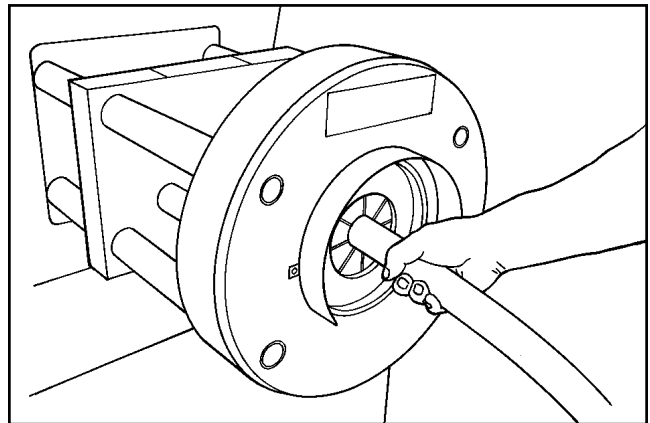

Figure 6
4. To crimp the fitting, press the CRIMP switch or footswitch. The die cage will advance until the fitting is fully crimped (Figures 6 & 7). It will then automatically begin to retract, signifying that the crimp is complete. Release the crimp switch or footswitch. The die cage will automatically retract and stop at the “full retract” position or at the programmable retract position if it has been set.